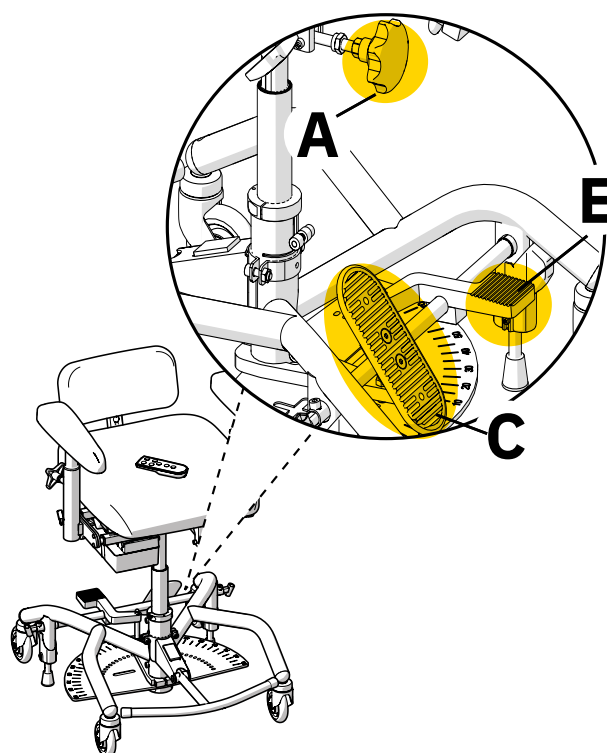
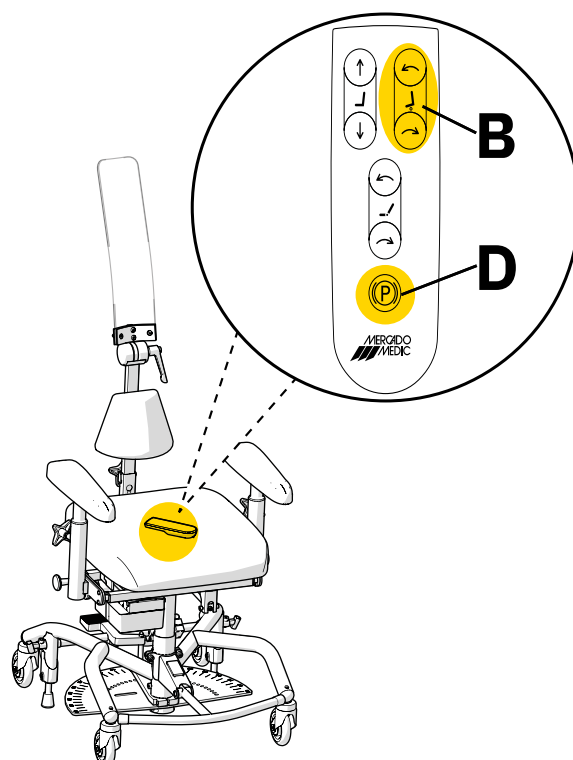

Figure 2.2. Controls for Real 8100 PLUS 24V Standard.
Figure 2.3. Controls for REAL 8100 PLUS 24V Advanced.
The device is equipped with electric height adjustment controlled by wireless remote control. The device is equipped with electric or manual height adjustment, depending on the model. Seat tilt is manually adjusted using the crank handle under the seat (A) (see Figure 2.2). Seat tilt (B) is electrically controlled using the wireless remote control (see Figure 2.3). The device is equipped with an electric or manual brake, depending on the model. The manual brake is activated and deactivated with a pedal (C) (see Figure 2.2). The electric brake (D) is controlled by wireless remote control (see Figure 2.3). The device is equipped with lockable seat rotation which is adjusted using the control (E) on the back of the base (see Figure 2.2). Press down on the control with your foot to unlock the seat rotation, rotate the seat to the desired graduation and release the control to lock the mechanism in a fixed position. See 5. Configurations and settings for detailed information about all the features and controls of the device.